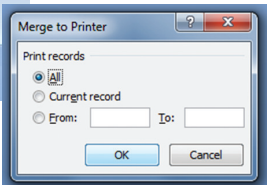

FIGURE 18 Select which labels you wish to print from the Merge to Printer window.
P. A **Merge to Printer** selection box appears, offering the option of printing **all labels**, the **current record**, or specifying a **range** (Fig. 18). Check the appropriate button.